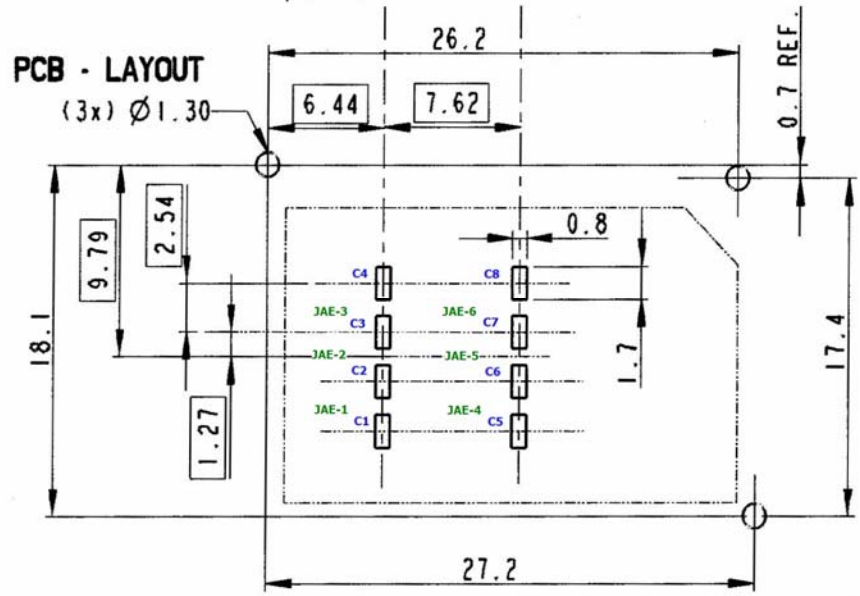
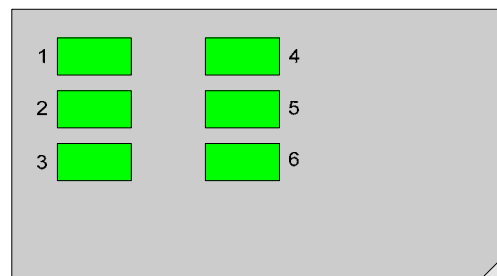

Figure 4: PCB layout pad assignment hosting a UICC
Figure 5: (U)SIM pin assignment
The baseband processor has an integrated UICC interface compatible with the ISO7816 IC card standard. This is wired to the PCIExpress Mini Card connector (PCIE connector) in order to be connected to an external UICC card holder (see Figure 5: (U)SIM pin assignment). Five pins on the PCIE connector are reserved for the (U)SIM interface (pins 8,10,12, 14 and 15 - see Table 1 and Table 3).
The UICC Card interface has got 6 contacts. Officially according to 3GPP there are 8 pads, so you will find eight (8) pads on the PCB-Layout picture (Figure 4) and in the specification of the PCI Express Mini Card, numbered from C1 to C8. Contacting elements in positions C4 and C8 are not used. They shall present high impedance to the UICC. Figure 5 and Table 3 show the pin assignment of a UICC card.
However as a way of an example “how to connect” the company JAE has introduced (<http://www.jae-connector.com/>) 6 pins UICC connectors. These are numbered JAE-1 through JAE-6. For convenience the JAE numbering is added on the PCB-Layout picture (Figure 4).